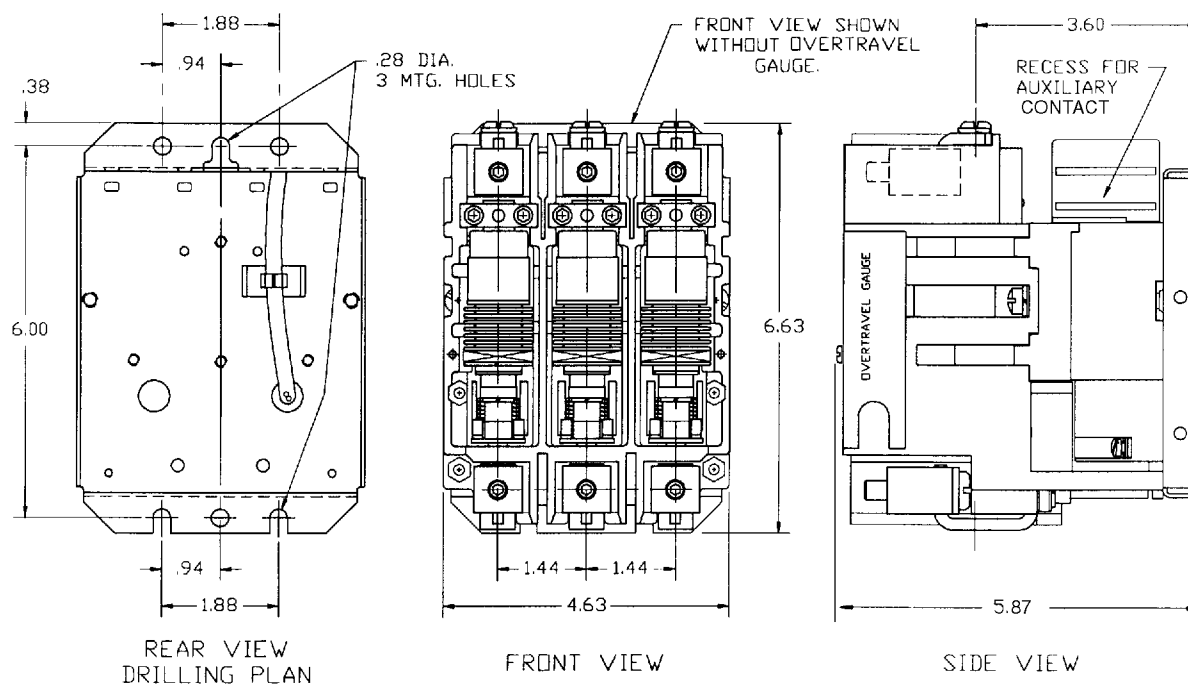

Figure 5 Dimensional Drawing (Inches), Class 8502 Type WFO
6. Pull the coil circuit assembly away from the lower base, feeding the two wires on the bottom through the holes in the baseplate, refer to Figure 5 on page 10.